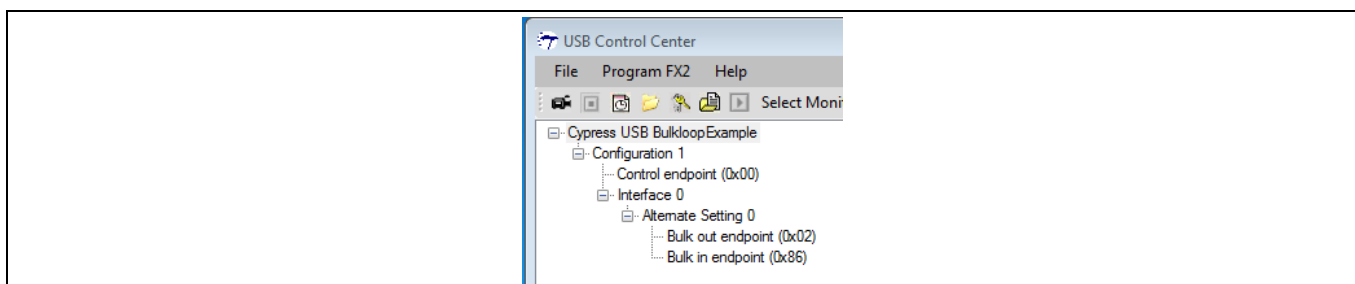

Figure 17 Bulkloop Example Device Internals
1. Expand the Bulkloop Example tree view in the Control Center to reveal the implemented BULK endpoints (**Figure 17**).